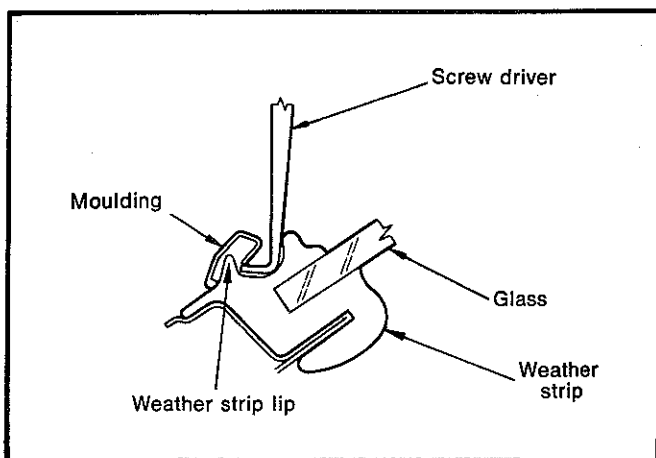

Fig. 21—Position of screw driver and moulding
(4) Press the end of the moulding into the spread weather strip, refer Fig. 21.